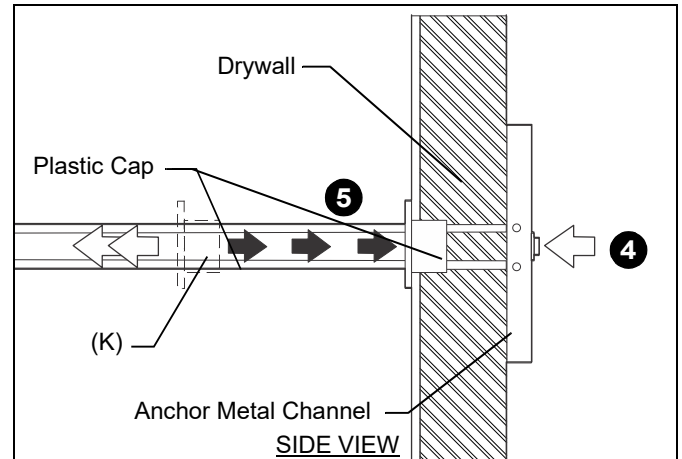

Figure 11
4. Holding plastic straps on anchor (K), pull anchor away from wall until channel rests flush behind wall making sure anchor channel is positioned vertically on drywall. (See Figure 11)
5. Slide plastic cap on anchor (K) towards wall until flange of cap is flush with wall. (See Figure 11)